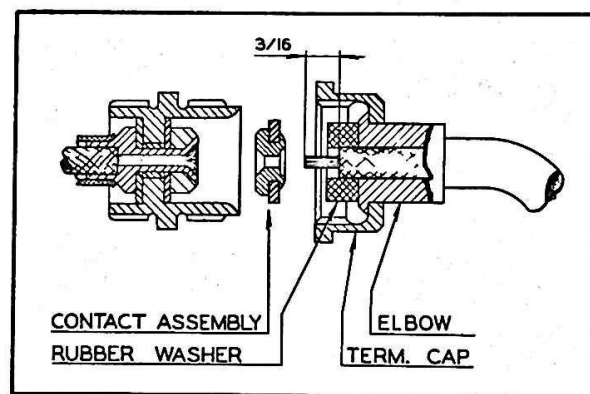

Figure 4 - Ground Wire Connections.
d. **GROUND WIRE.** - Unscrew the ground terminal cap and take out the brass contact, rubber washer, and ground wire shielding ferrule. (See figure 4.) Slip ferrule through the terminal cap and solder ground wire shielding to it. Strip the insulation from the end of the wire for a length of 3/16 inch. Insert wire through rubber washer and into the brass contact. Slide the rubber washer back over the ground wire to avoid the heat, and then solder the stripped end of the wire to the